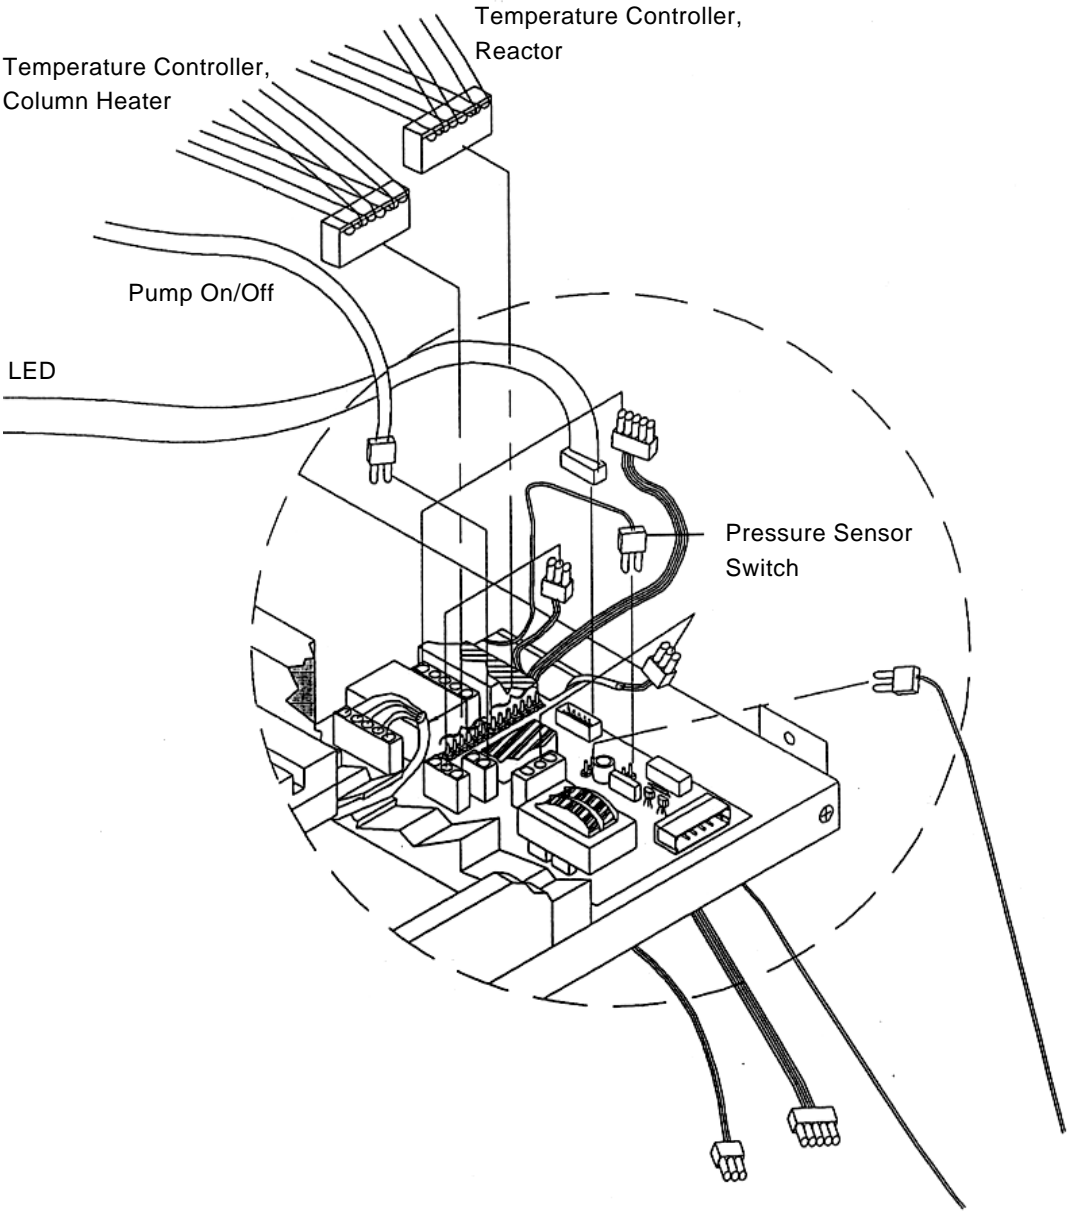

Figure 6-1. Electrical connections at the printed circuit board
- Step 5. Disconnect five electrical connections at the printed-circuit board (Fig. 6-1): from two temperature controllers, pump on/off switch, ready LED lights, and the pressure sensing switch. Note the orientation of the connectors to facilitate reassembly.
**Note:** The electrical cables from the left and right temperature controllers should be connected to their respective sides in the printed-circuit board (Figure 6-1).